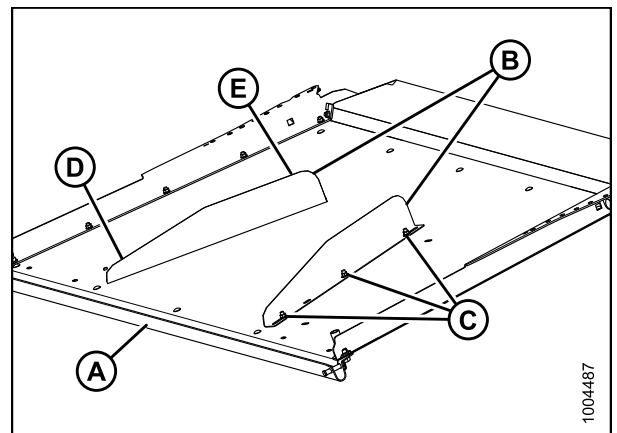

Figure 3.26: Center Deflectors
Orient deflectors (B) so that narrow end (D) is toward the front of the cover (A) and deep end (E) is toward the rear as shown in Figure 3.26: Center Deflectors, page 19.